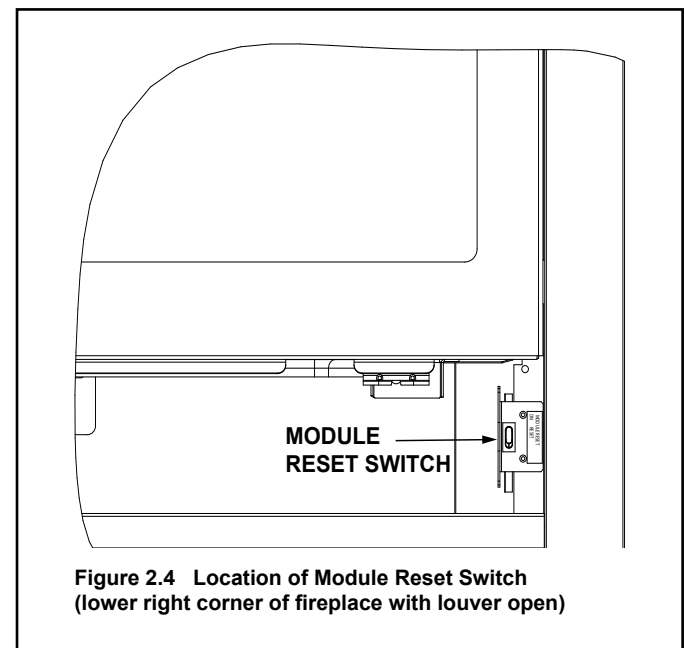

Figure 2.4 Location of Module Reset Switch (lower right corner of fireplace with louver open)
- Locate the module reset switch. (See Figure 2.4).
- Wait five (5) minutes to allow possible accumulated gas to clear.